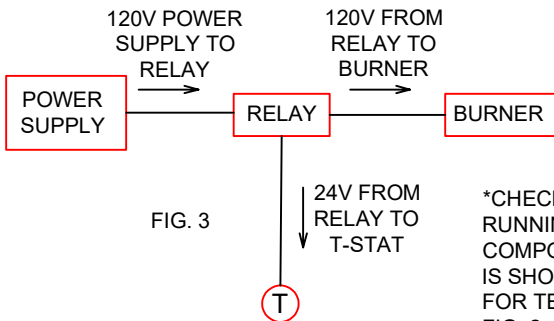
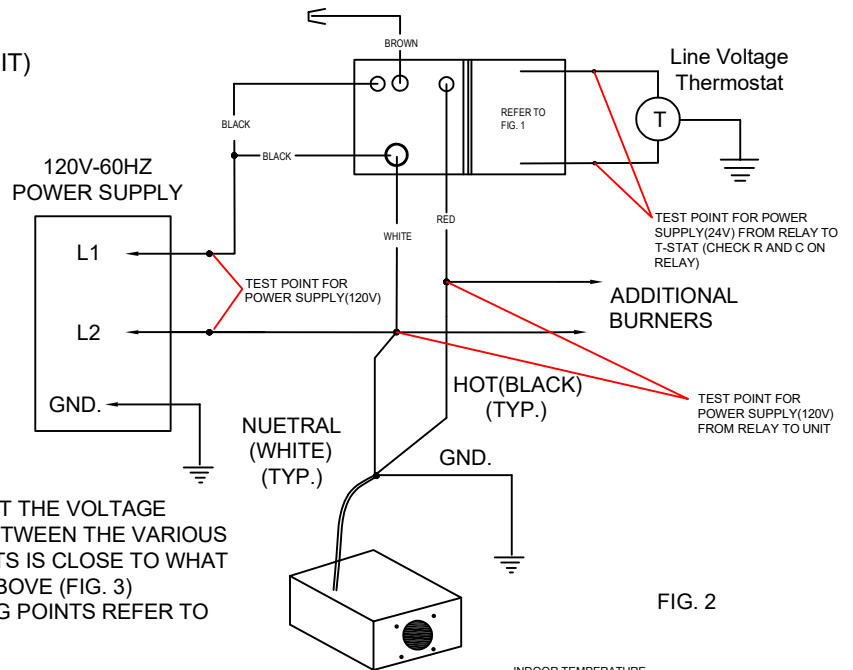

FIG. 3
FIG. 2
REFER TO FIG. 2
*CHECK THAT THE VOLTAGE RUNNING BETWEEN THE VARIOUS COMPONENTS IS CLOSE TO WHAT IS SHOWN ABOVE (FIG. 3) FOR TESTING POINTS REFER TO FIG. 2